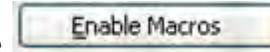

Figure 3: Screen showing “Enable Macros” button
3. You will see a security-warning box appear (**Figure 3**). Select the button in the security-warning box.